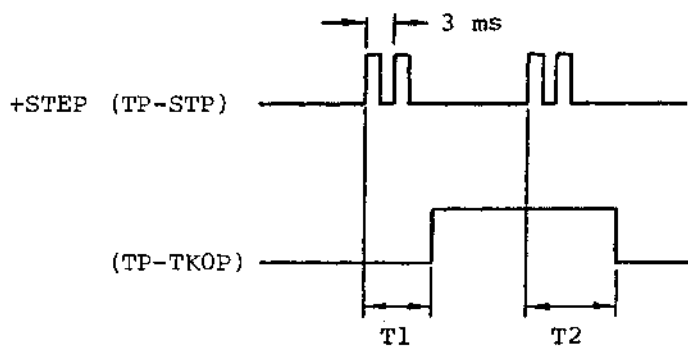

Fig. 11 Track 00 Sensor Adjustment
- ④ Repetitively seek Track 00-02.
- ⑤ Move the Track 00 sensor right or left (toward Track 00) or Track 76), adjust to the standard level, and tighten the setscrew (see Figs. 11 and 12).